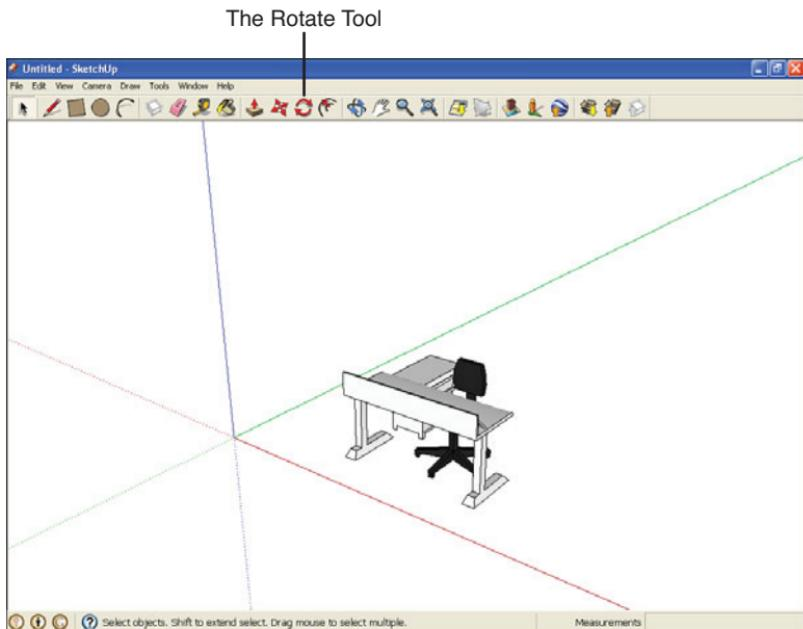

FIGURE 8.1 The Rotate tool and our desk.
- 8.** Click inside your drawing to draw the desk set, as shown in Figure 8.1. Now we'll rotate the desk set.
- 9.** Select the **Rotate** tool in the toolbar (shown in Figure 8.1). Selecting the Rotate tool displays a rotation base, which appears as a double circle, at the location of the mouse cursor. As you move the mouse, SketchUp aligns the rotation base with the underlying surfaces.